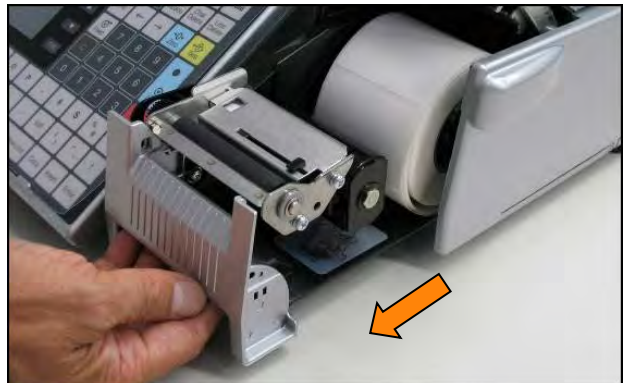

Figure 15. Remove Cassette
- b. Remove the cassette from the scale. See Figures 15.